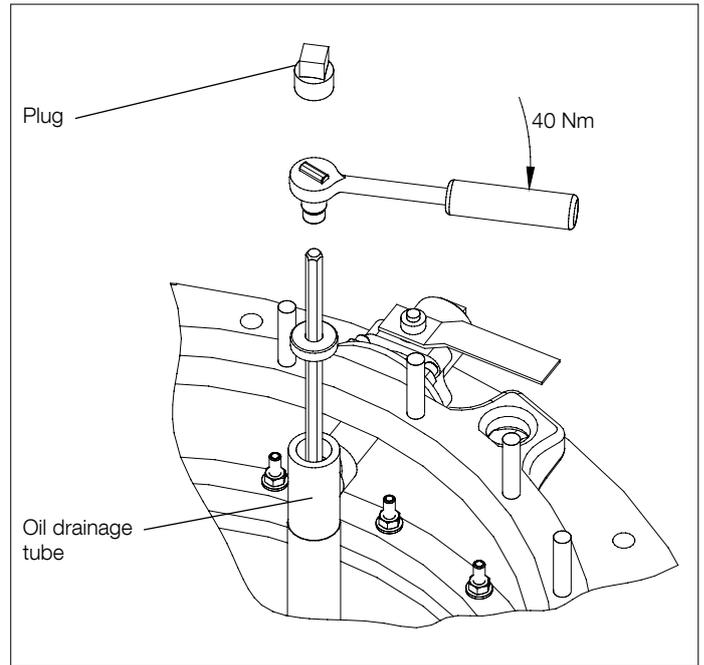

Fig. 18.
11. Remove the plug at the end of the T-coupling (see Fig. 18), slide down the bottom valve key and close the valve by turning the key clockwise approximately 6 turns. Tighten to 40 Nm. Refit the plug.